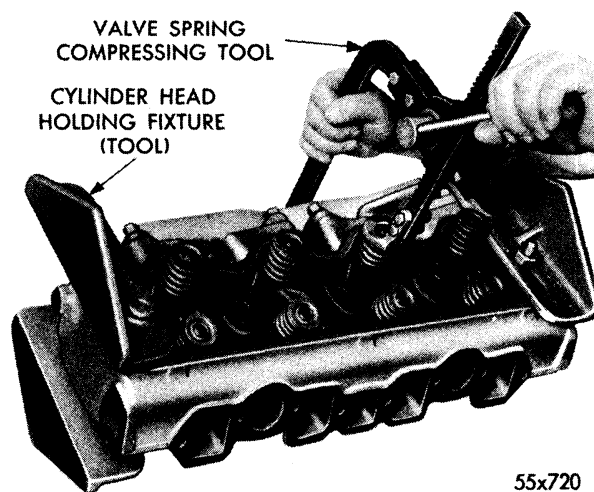

Fig. 60—Compressing Valve Springs With Compressing Tool
With the cylinder heads mounted in holding fixtures, Tool C-3209, as shown in Figure 60, disassemble as follows:
- (1) Compress the valve spring, using Tool C-3428, as shown in Figure 60. Remove the valve locks, then release and remove the spring compressing tool. Repeat procedure for all springs.
- (2) Remove the valve spring retainer and valve stem seal rings (from intake valves only), then lift off the valve springs. The valve spring retainer and springs are interchangeable. Slide valves out of guides.
- (3) Check the lock grooves in the valve stems for burrs. Remove burrs, if present, using a fine file or stone so as not to damage valve guides.
- (4) Remove the valves from each head and place in a numbered rack. Clean all parts in a suitable solvent, then blow dry with compressed air.